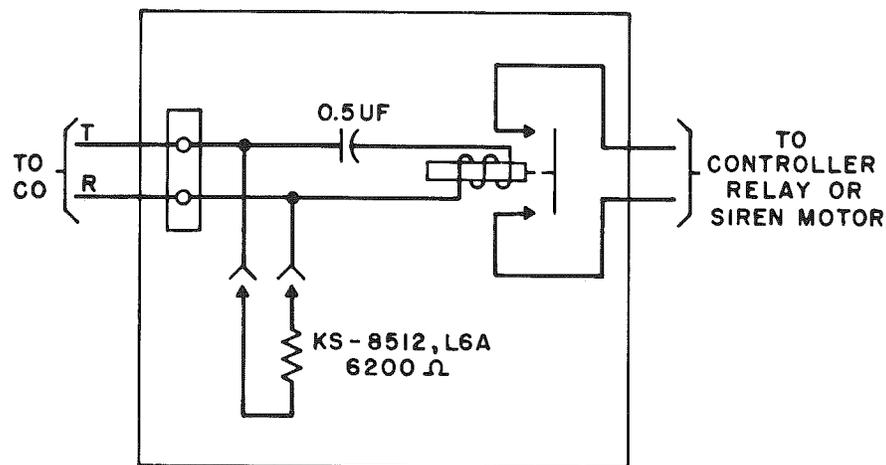

Fig. 3 – Modification of KS-16626,L6 Power Relay Set
4.01 The KS-16626,L6 power relay set connects to a line as shown in Fig. 3.
4.03 At stations where the line is to be placed under continuous test, connect a KS-8512, L6A resistor equipped with No. 241 terminals across line (Fig. 3). Insulate exposed leads of the resistor with tape or tubular insulation.